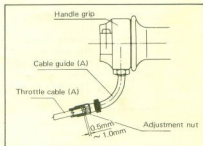

Fig. 1-3-6
- 2) Adjust the throttle cable at the throttle grip so it has proper slack (see Fig. 1-3-6)